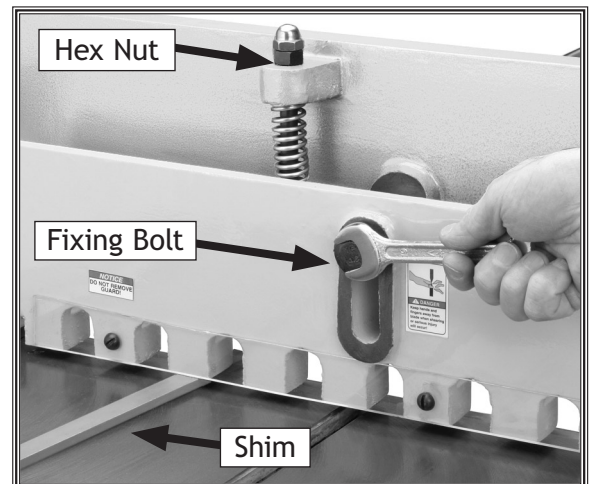

Figure 8. Tightening pressure plate.
4. Tighten the two fixing bolts on the front of the pressure plate to secure it in place (see **Figure 8**).